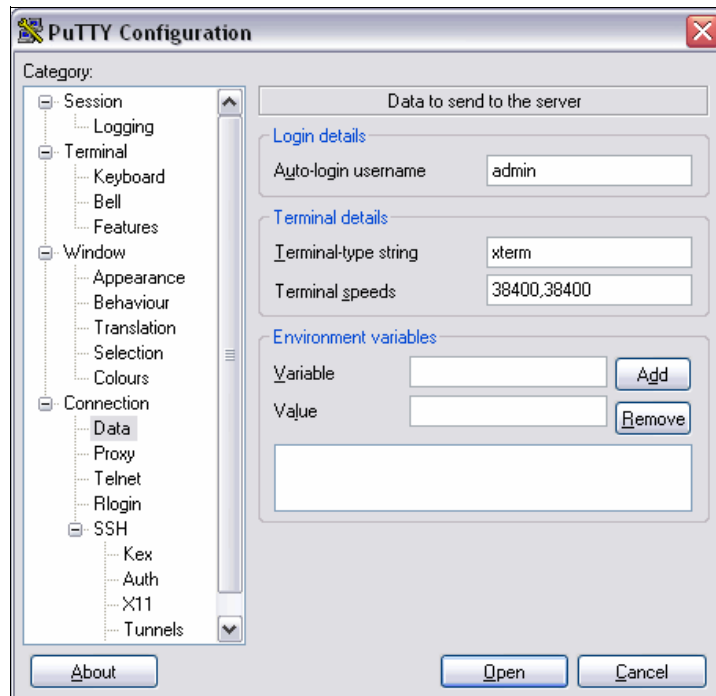

Figure 16-22 Configuring the auto-login user name
- The auto-login user name, which you set to your SAN Volume Controller administrator user name (for example, `admin`). To set this parameter, click **Connection** $\emptyset$ **Data** in the left pane of the PuTTY Configuration window, as shown in Figure 16-22 on page 576.